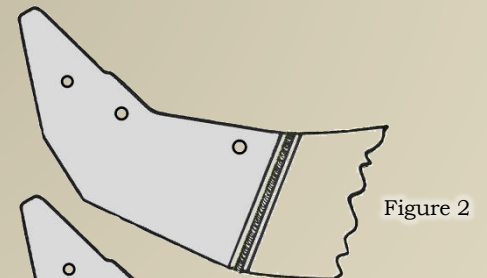

Figure 2
2. While maintaining proper heat, apply first sealer bead on one side of the nosepiece and ripper shank, immediately proceeding with the second sealer bead on the opposite side (figure 2).